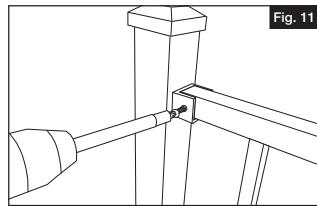

Fig. 11
- c. Set the panel in place. Pre-drill the screw holes using a  $\frac{5}{32}$ " metal drill bit. Secure with the supplied panel attachment hardware (Fig. 11) (2 screws per bracket).